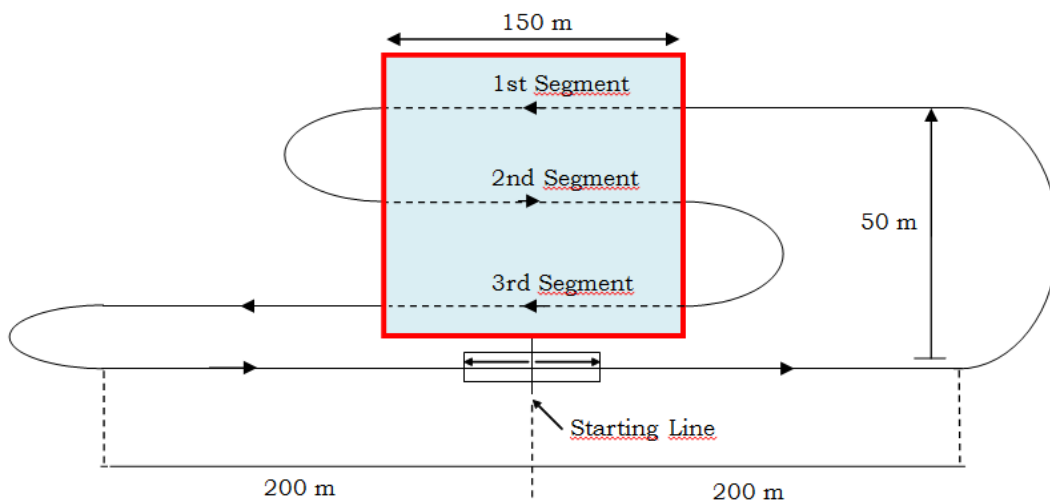

Figure 5. Flight pattern for Mission 2.
- 1 Lap payload flight. The flight pattern is given in Figure 5.